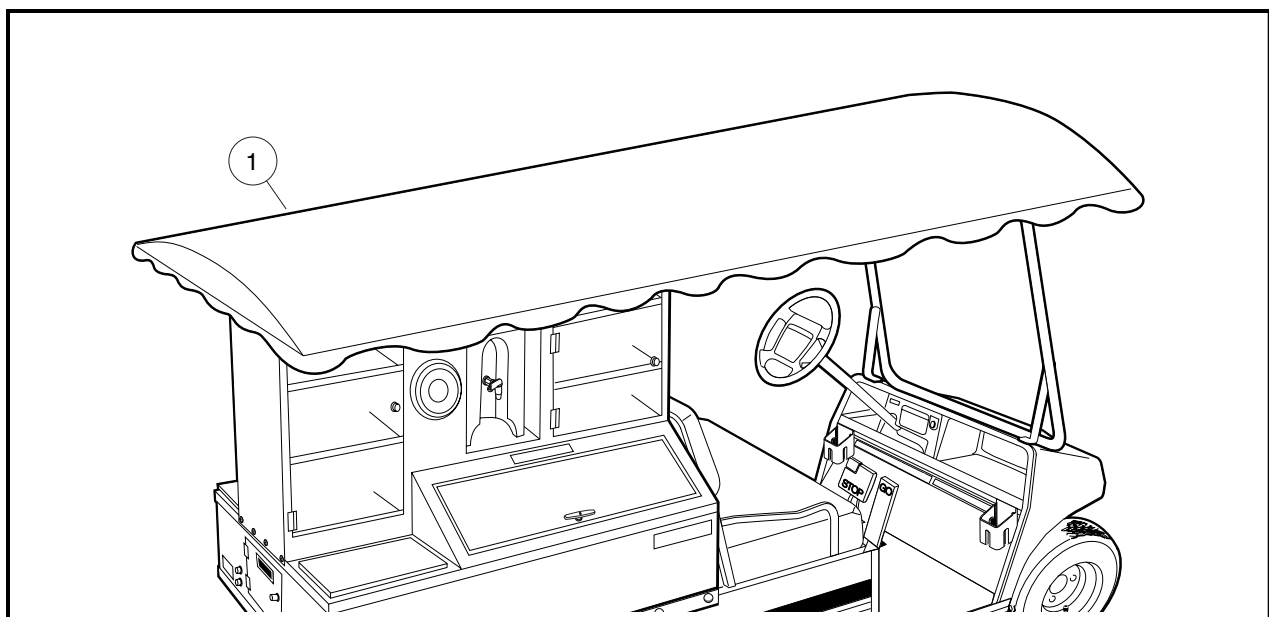

Figure 7 Canopy Cover Installation
1. Spread the canopy cover (1) out over the canopy frame with the velcro strip facing inward toward the canopy frame (**Figure 7**).